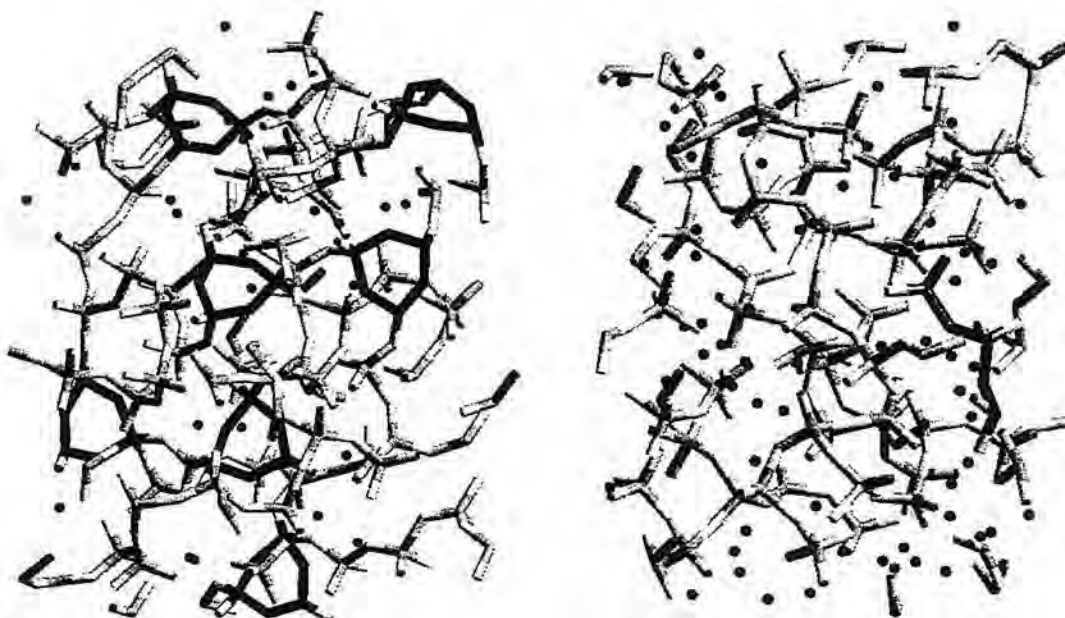

Figure 1: MD simulated structure for 20 and 50% Li_2O in $x\text{Li}_2\text{O} \cdot (100-x)\text{P}_2\text{O}_5$.
Our laboratory continues to use NMR to investigate the structure and dynamics in amorphous materials, including the local structure of ultraphosphate glasses. Changes in the alkali environment in these phosphate glasses as a function of modifier concentration has recently been probed using ^6Li and ^{23}Na solid state NMR.^{1,2} Molecular dynamic (MD) simulations have also been performed in an attempt to gain additional insight into the variations of the local structure.³ For example, Figure 1 shows a pictorial representation of the glass structure obtained from MD simulations.³